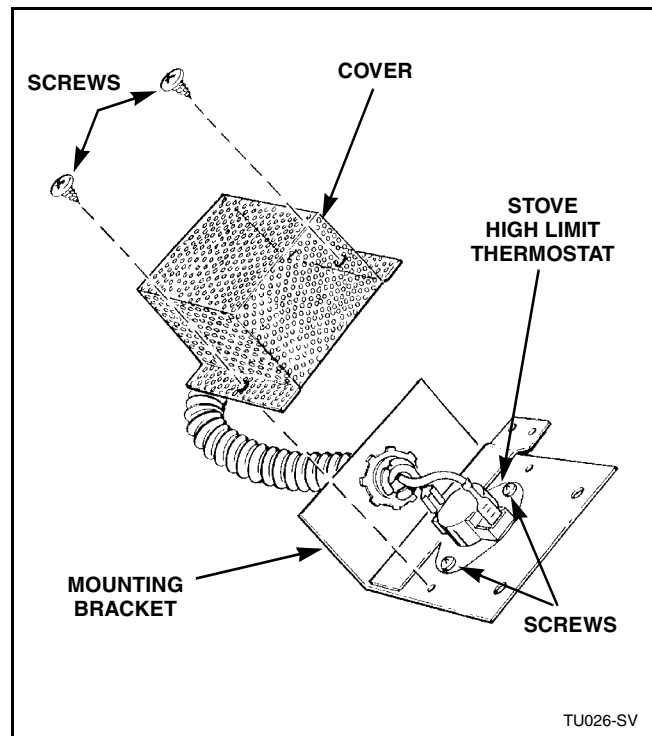

Figure 19
- Remove two screws holding cover to mounting bracket. Refer to *Figure 19*.
- Remove two screws holding thermostat to mounting bracket. Refer to *Figure 19*.